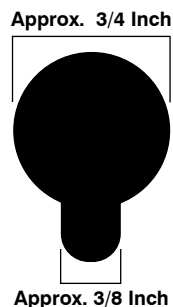

Figure 4: Mounting Button Holes
The Mounting Buttons allow MPC-20V (vertical) units to be mounted in any equipment rack that includes mounting button holes, as shown in Figure 4. Depending on the location of the mounting button holes in your equipment rack, this can allow the MPC-20V to be mounted on the posts at the rear of the equipment rack, or in some cases, even mounted on the outside of the rack corner posts.
2. **Attach the MPC to the Equipment Rack:** Align the Mounting Buttons with the top end of each mounting button hole (see Figure 4.) Press the mounting buttons into the mounting button holes, and then slide the unit downwards, so each Mounting Button seats firmly in the lower end of each corresponding mounting button hole.